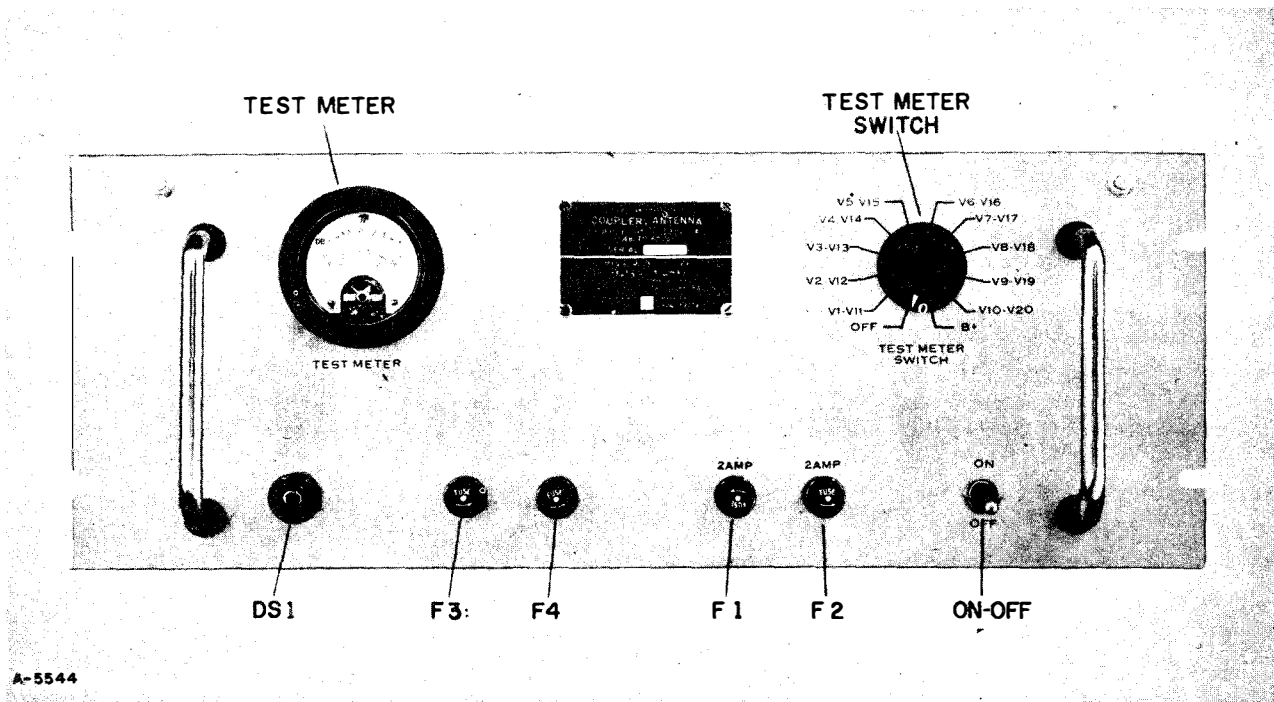

Figure 3-1. Antenna Coupler CU-656/U, Location of Controls
a. DESCRIPTION OF CONTROLS. -The function of the various controls and connectors located on the Antenna Coupler CU-656/U are tabulated in table 3-1. Location of the various controls and connectors are shown in figure 3-1.